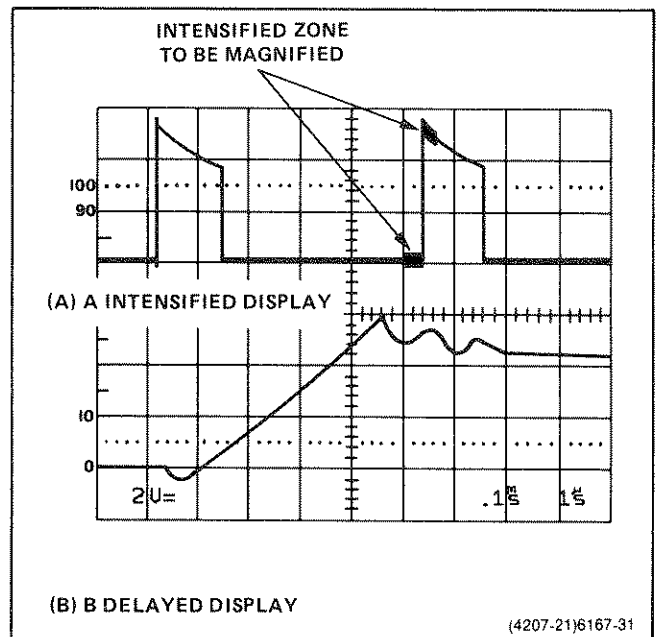

Figure 6-11. Delayed-sweep magnification.
8. Adjust the DELAY control to position the intensified zone on the A trace to the portion of the display to be magnified (see Figure 6-11).